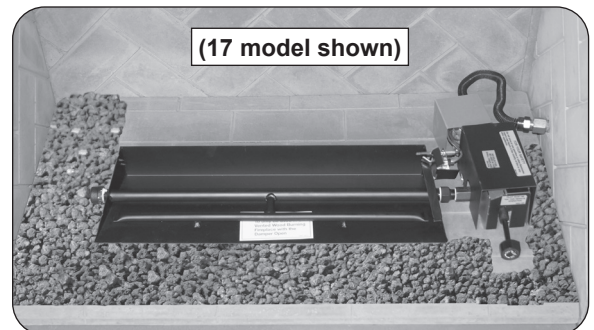

Fig. 18-2 Place lava media (if option purchased)
1. Spread the lava granules on the floor of the fireplace, around the front and sides of the burner system (see Fig. 18-2).